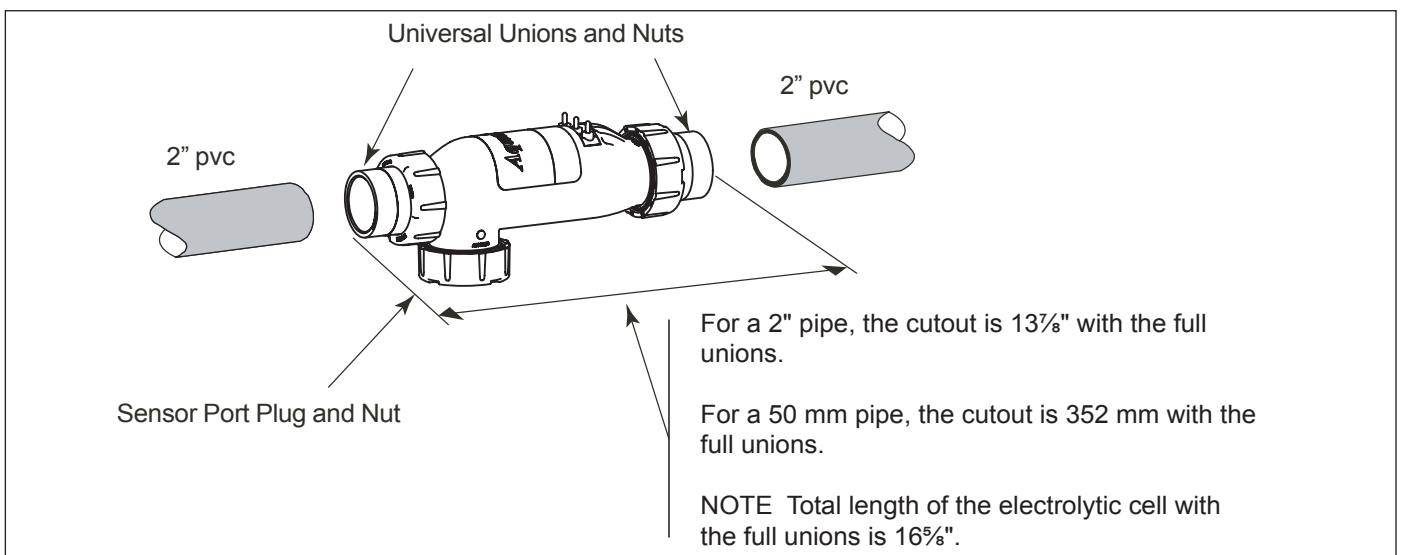

Figure 11. Pipe Cutout
5. Cut out a 13⁷/₈" (352 mm) section of the 2" (50 mm) pipe to insert the Cell. See Figure 11.